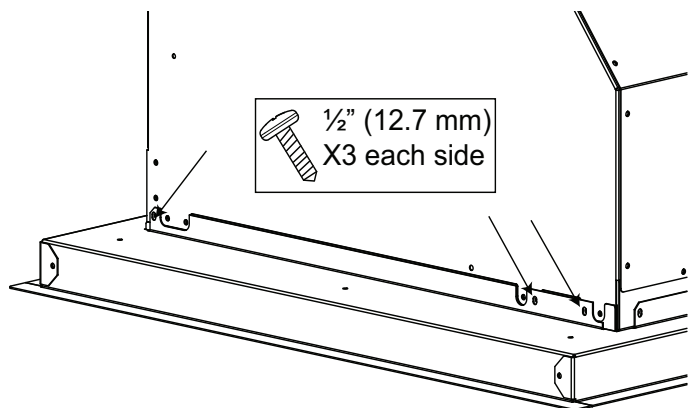
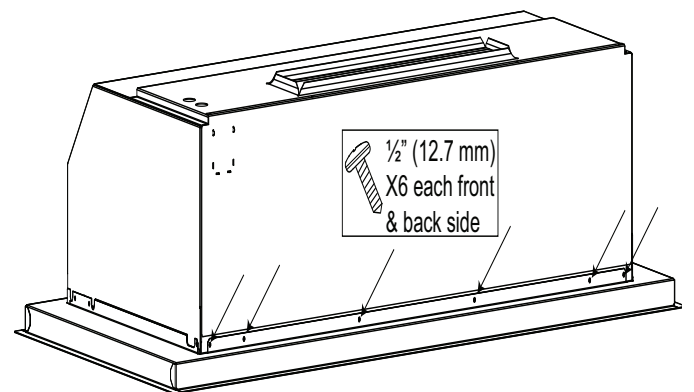

Figure 3: VCIN Secure Liner Sides
Figure 4: VCIN Secure Liner Front & Back
3. Secure the liner to the hood with eighteen (18) x 1/2" (12.7 mm) screws, as indicated in *Figure 3* and *Figure 4*.